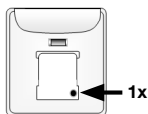

Fig. 3
A. Press and release the program button on the back side of the secondary control once. The LED will flash green. (Fig. 3)